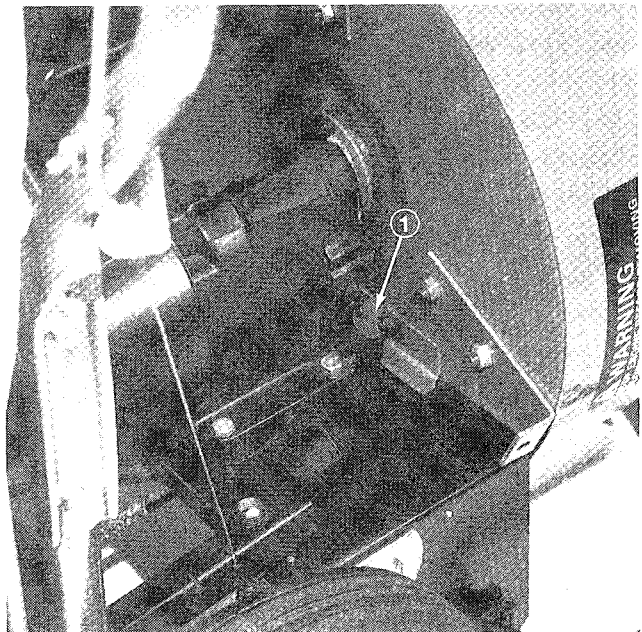

Figure 9
3. Remove filler plug from crankcase (Fig. 9).